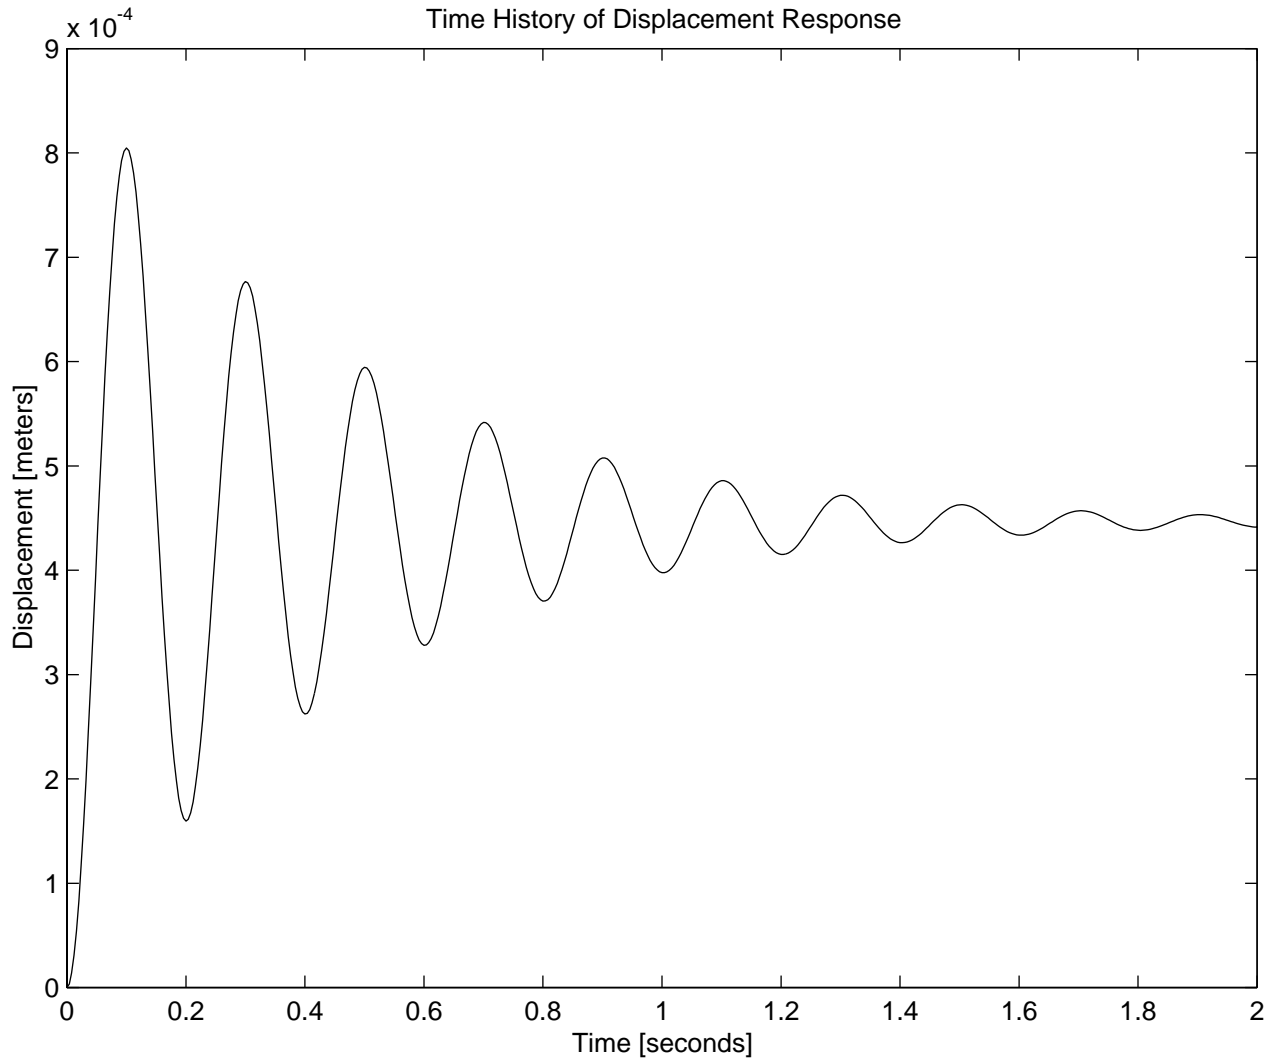

Figure 1: Response to 1.0 Newton Step-Force
1. A rigid plate supported on four identical springs, like the system demonstrated in class, has unknown model parameters, m , k , and b . A dynamic test is performed in which a constant force of 1.0 Newton is suddenly applied at $t = 0$. The measured displacement response is displayed in Fig.1